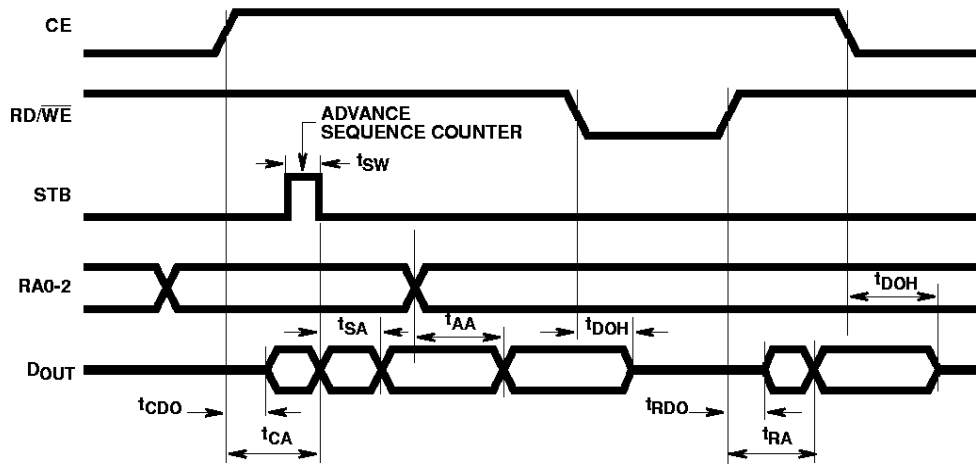

FIGURE 9. READ TIMING DIAGRAM
$C_L = 100\text{pF}$  (See Figure 9)
**Dynamic Electrical Specifications** At  $T_A = -40$  to  $+85^\circ\text{C}$ ,  $V_{DD} \pm 5\%$ ,  $t_R, t_F = 20\text{ns}$ ,  $V_{IH} = 0.7V_{DD}$ ,  $V_{IL} = 0.3V_{DD}$ ,  $C_L = 100\text{pF}$  (See Figure 9) (Continued)